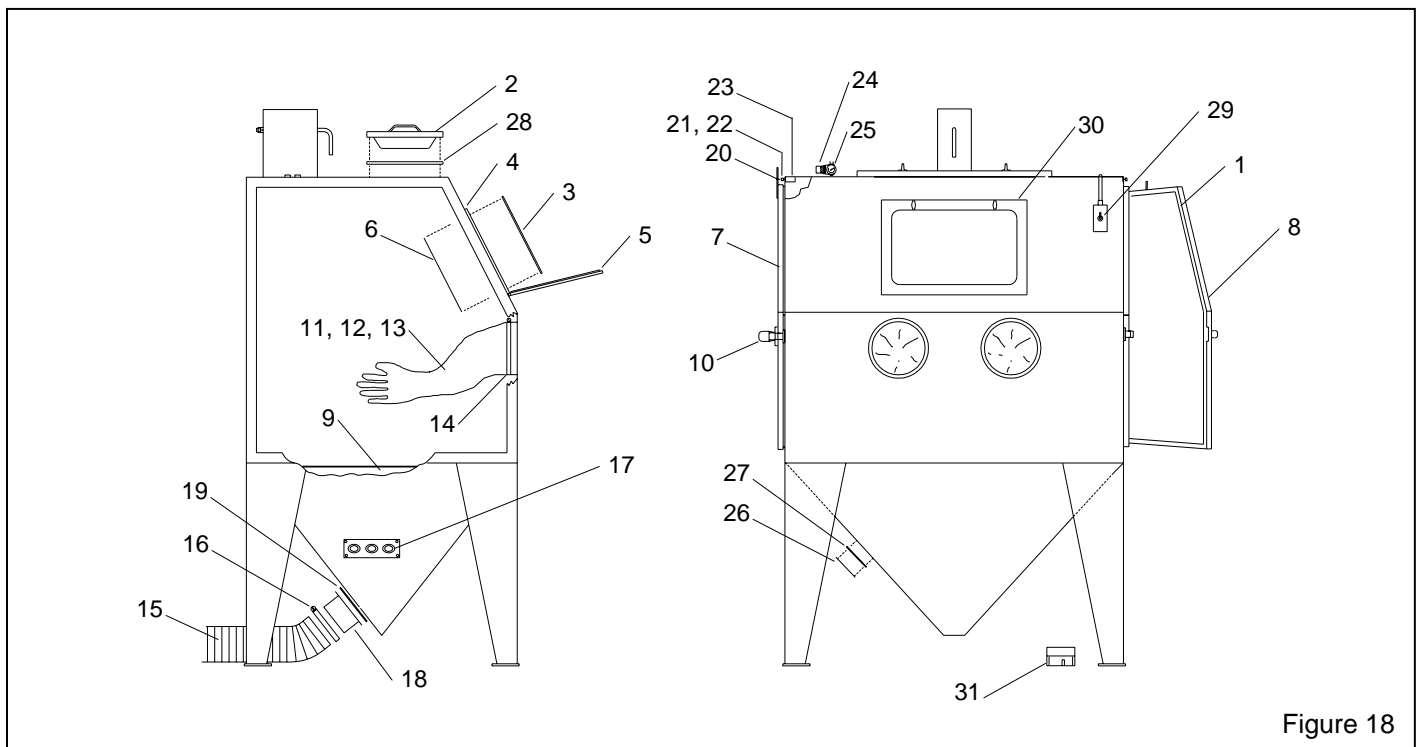

Figure 18
9.2 Cabinet Replacement Parts, Figure 18